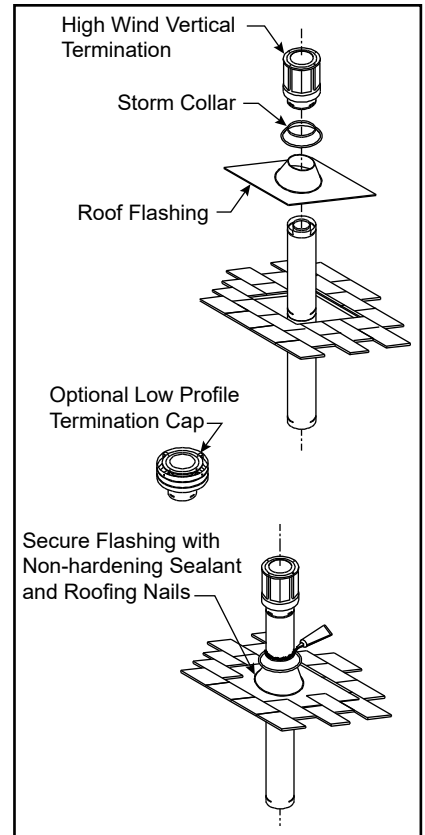

Figure 3.37
Ensure the roofing material overlaps the top edge of the roof flashing, Figure 3.37. Verify that you have at least the minimum clearances to combustibles at the roofline and in the attic.
**Step 8** - Slip the storm collar over the pipe section, and push it down to the top of the roof flashing, Figure 3.37. Use non-hardening sealant between the storm collar and the pipe section